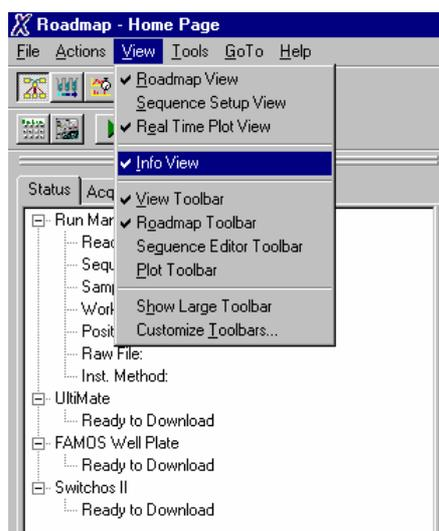

FIGURE 2-44 The View Menu (Home Page)
- d) Choose *Real Time Plot View* from the **View** menu on the Xcalibur **Home Page** (FIGURE 2-44) or the toolbar button  to display the **Real Time Plot** of the chromatogram. All standard Xcalibur plot options may be used to adapt this view to your requirements.
- a) Choose *Real Time Plot View* from the **View** menu on the Xcalibur **Home Page** (FIGURE 2-44) or the toolbar button  to display the **Real Time Plot** of the chromatogram.